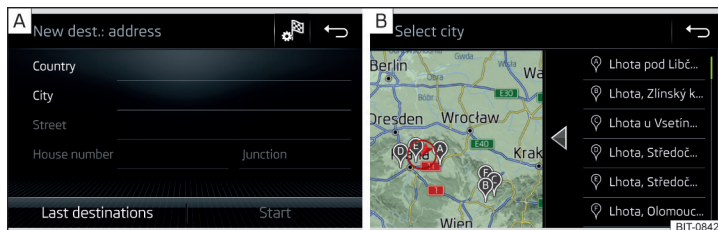

Fig. 213 Enter destination using the address: Main menu / List of visited destinations
- › Enter the destination address and then confirm » Fig. 213 - **A**.
Depending on the number of places visited, a map with a list of visited places can be displayed automatically » Fig. 213 - **B**.